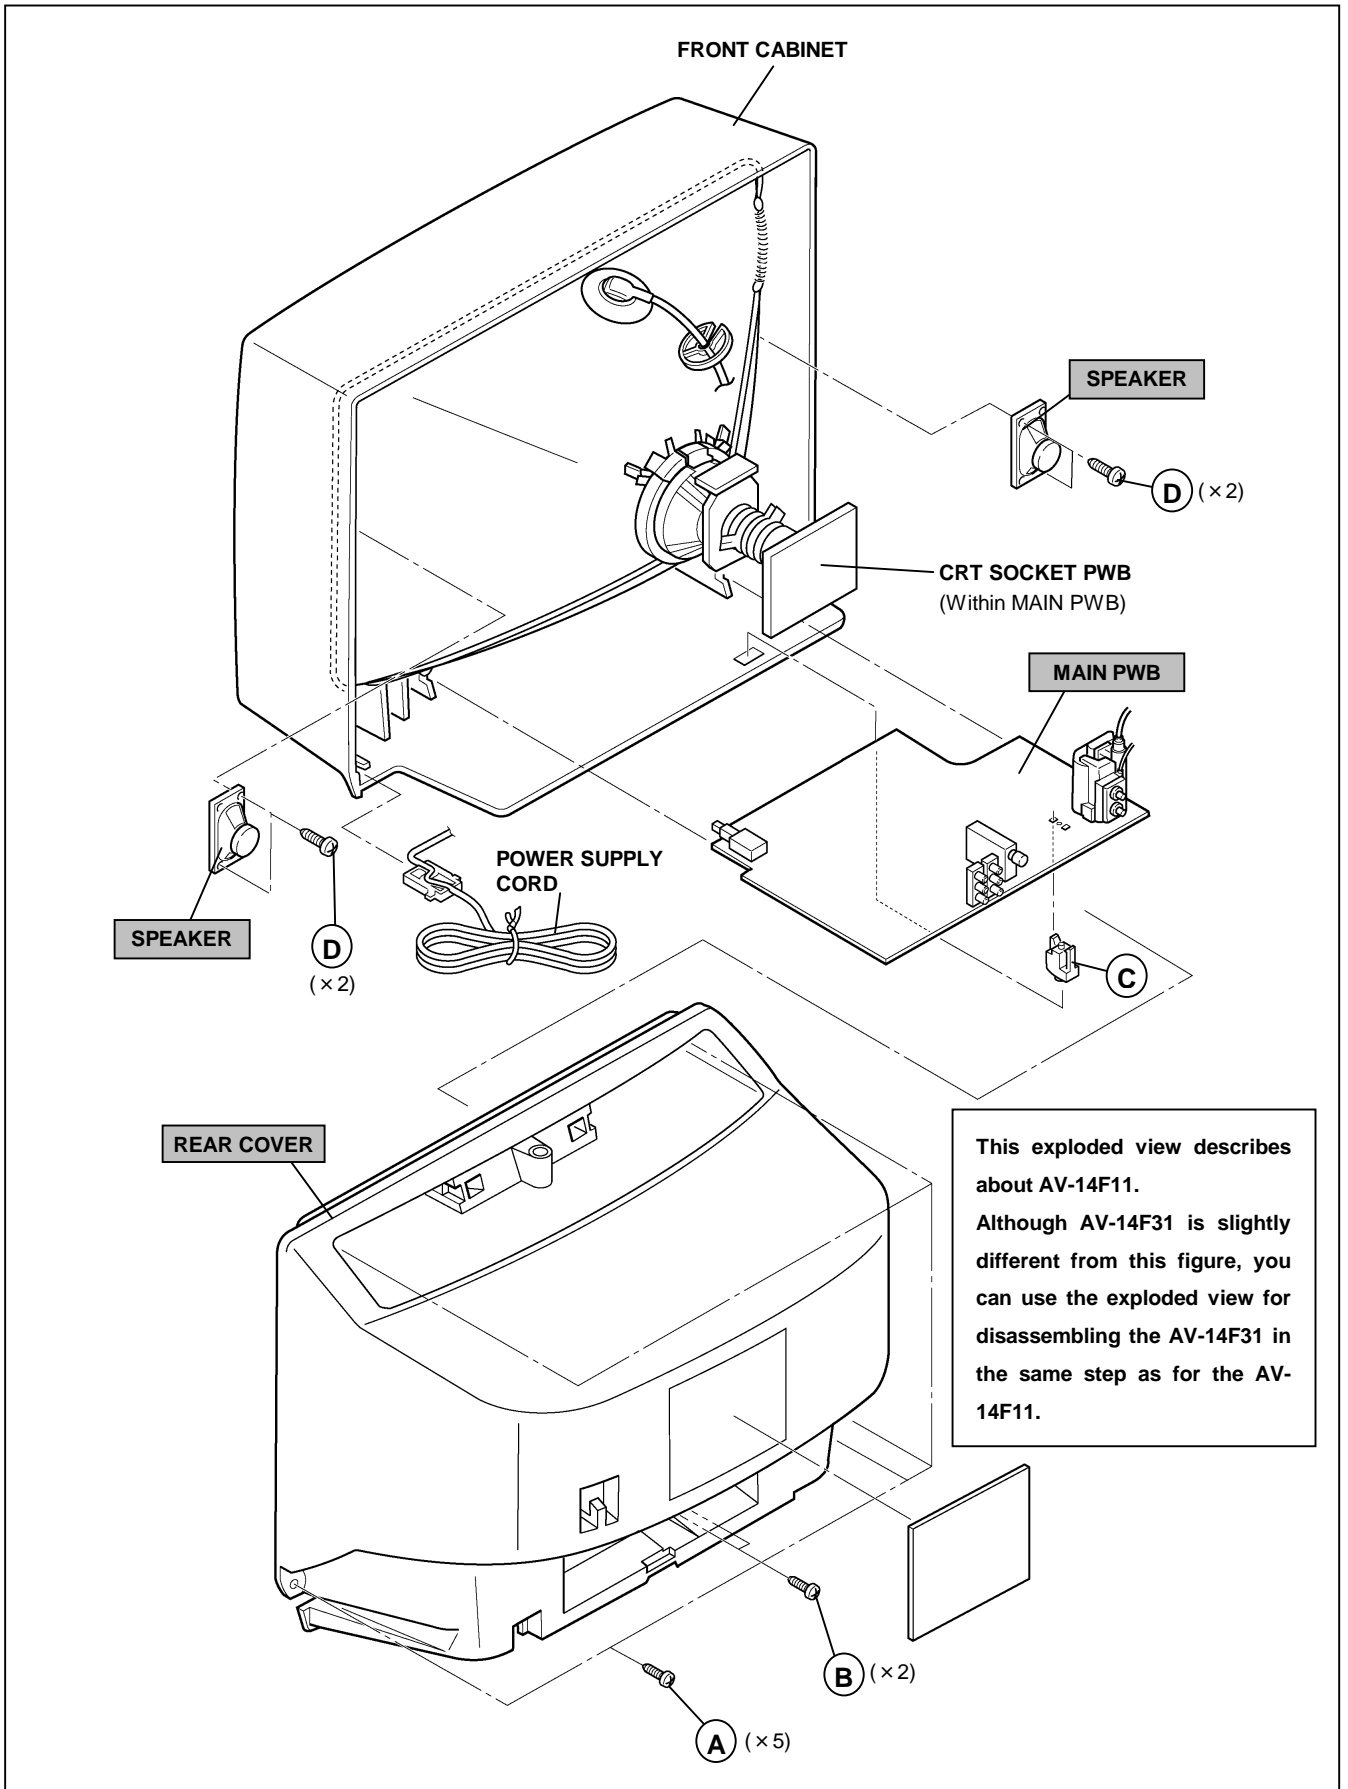

Fig. 1
1. Remove the 2 screws marked (D) as shown in Fig.1.